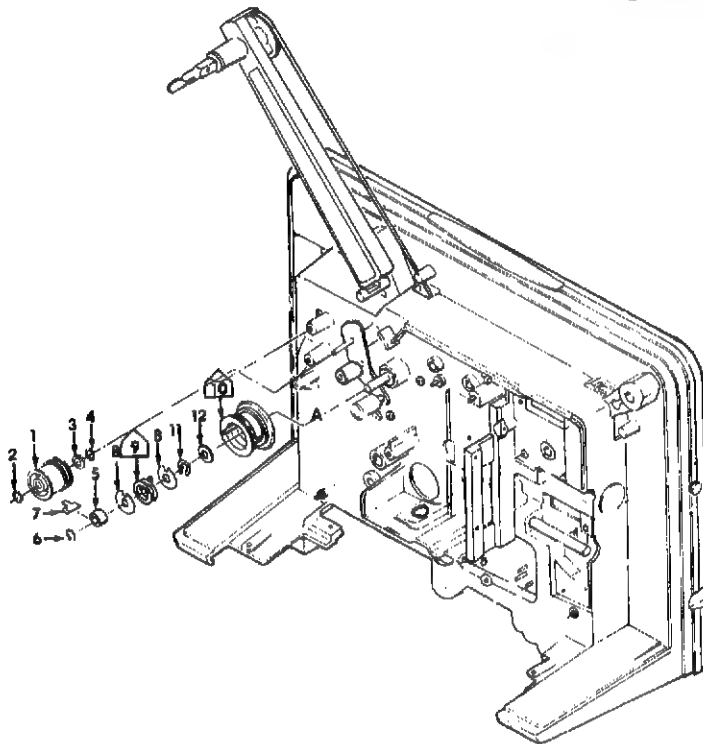
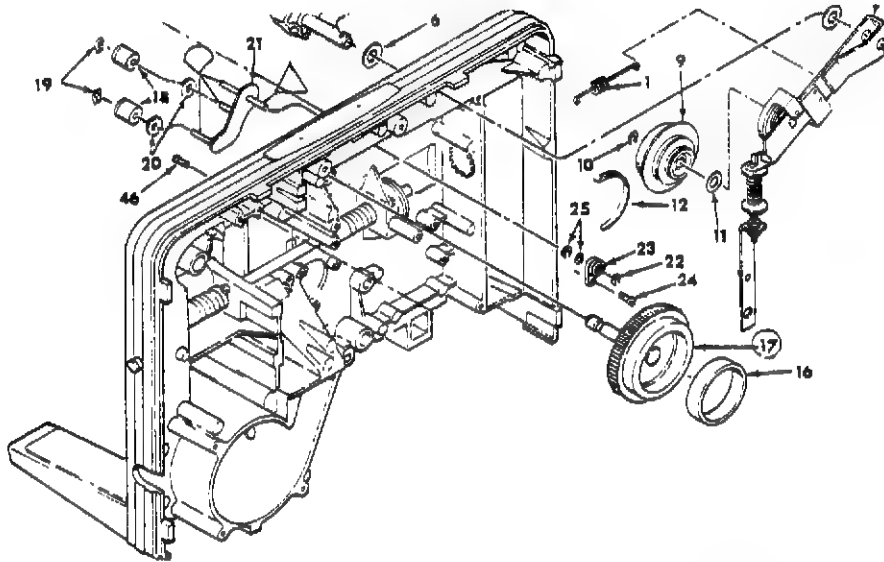

Figure 3-12 REMOVAL AND REASSEMBLY OF TAKE-UP SPROCKET
Figure 3-13. REMOVAL AND REASSEMBLY OF TAKE-UP GEAR
2. Remove the Grip Ring (6) and manually rotate the take-up Sprocket (10) clockwise slightly to move the sprocket Pin away from the stop (7). (Figure 3-12)
3. Grasp the Stop (7) with a pair of pliers and pull it straight out.
4. Slowly release your grip on the Sprocket (10) and allow the Spring (9) to unwind.
5. Remove the Spacer (5), Outside Washer (8), Spring (9) and Inside Washer (8). (The two washers (8) are usually removed easily with a magnet.)
6. Remove Grip Ring (11), Washer (12) and Sprocket (10).
7. Slide the Take-Up Gear out of the main casting bearing (Figure 3-13).